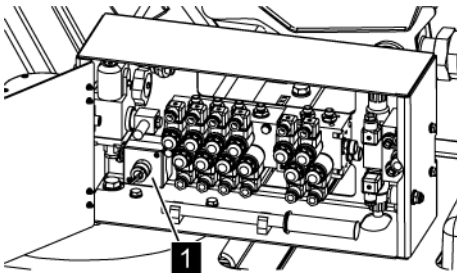

Fig. 195: Key switch
7. ➤ Set the key switch (Fig. 195/1) to the "I" position.
After service mode, set the key switch (Fig. 195/1) to the "0" position.